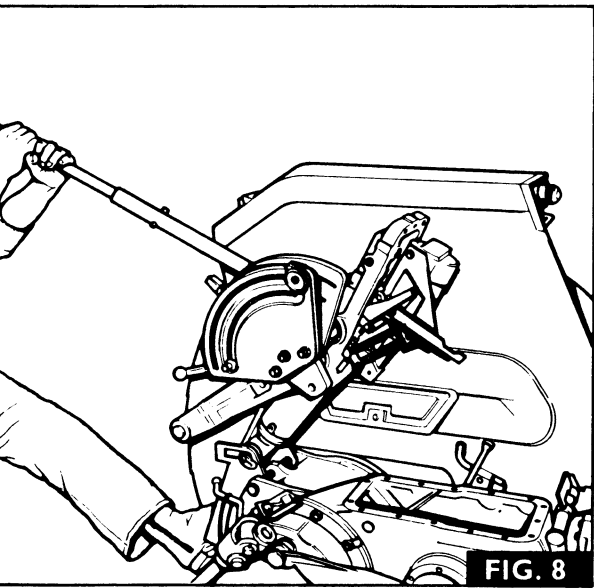

FIG. 8
10. Fig. 8. Taking care not to damage any parts, detach the lift cover from the centre housing as shown, and place the support leg on the ground.
6. Fig. 8. Taking care not to damage any parts, manoeuvre the lift cover assembly into position, over the guide studs, onto the centre housing, ensuring that the Pressure Control link locates in the Pressure Control adjuster assembly.